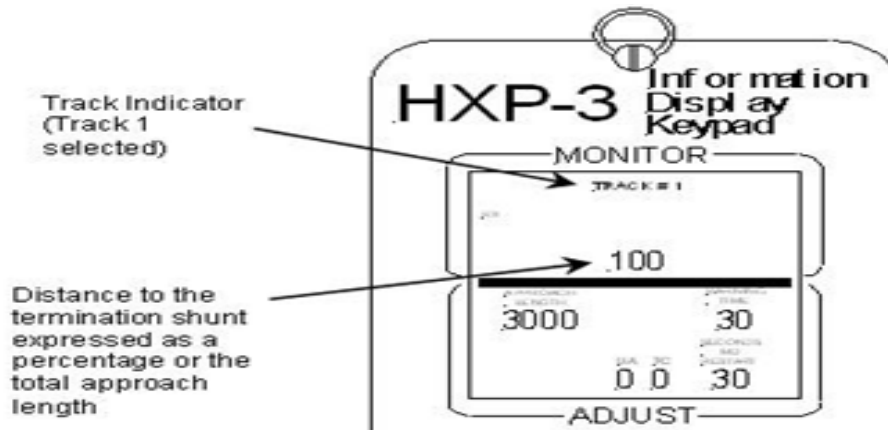

Figure 4 – HXP-3 Display Information RX
8.1 Press the MONITOR SEL button until RX is selected, as shown in Figure 4.
8.6 Press the MONITOR SEL button until PHASE is selected as shown in Figure 4.